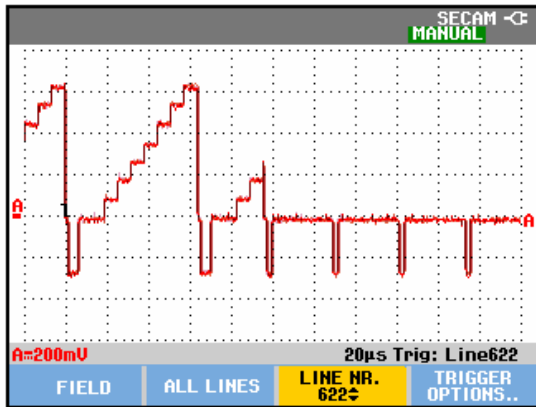

Figure 4-12. Trace for PAL/SECAM line 622
- ⇒ 622 for PAL or SECAM, see Figure 4-12